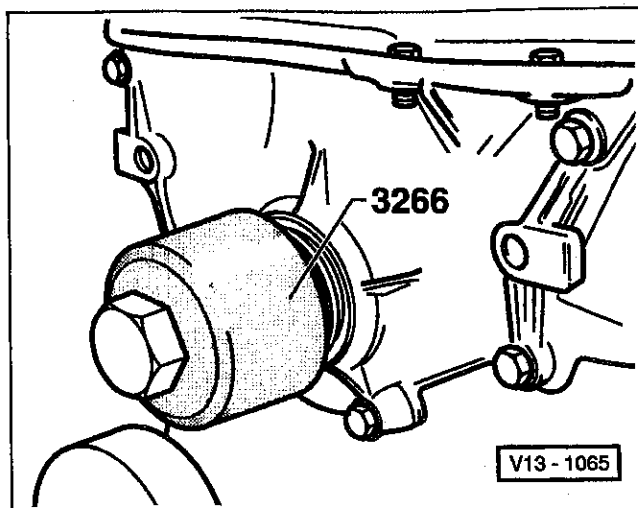

Fig. 3. Front crankshaft oil seal being installed using Volkswagen special tool no. 3266.
4. Install the new seal, lubricated with clean engine oil, with the closed side facing out. Carefully press it into place until it is fully seated. For best results, use a seal press such as Volkswagen special tool no. 3266, shown in Fig. 3.